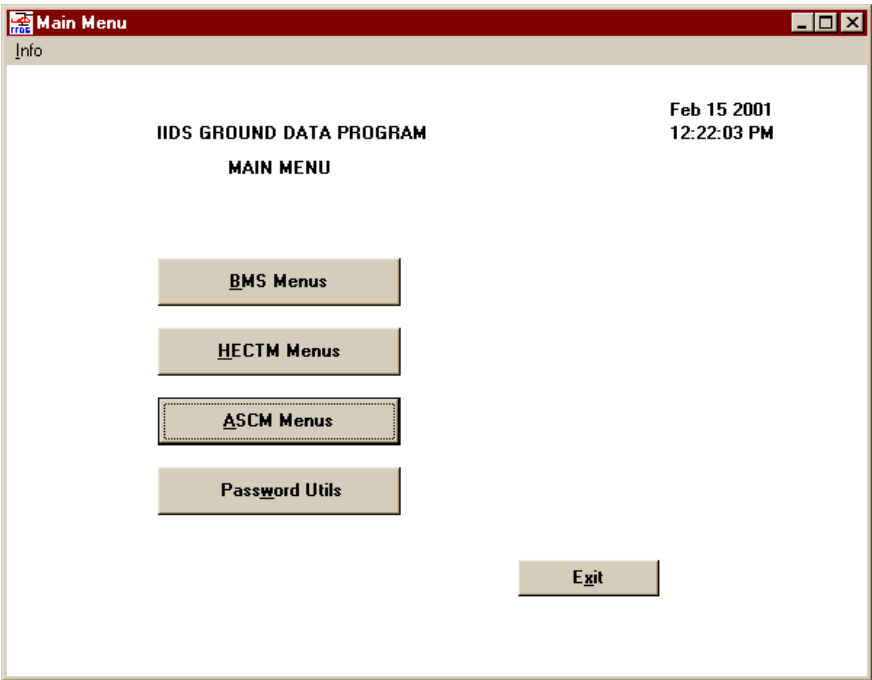

Figure 53. GBMC Main Menu
- 1. Select **HECTM Menu** from the GBMC Main Menu (refer to Figure 53).